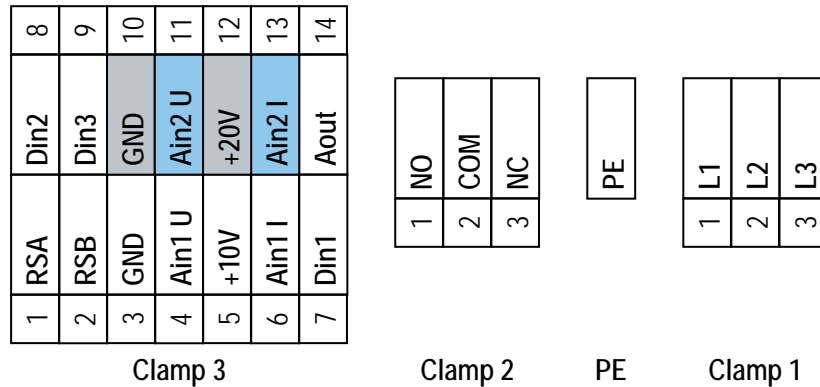

Fig. 25: Terminal strip, ports for specification of actual value with sensor control
To connect the sensor, the terminal strip (KL) is provided with the two analogue ports Ain2 U and Ain2 I (see Fig. 25). Alternatively, terminals Ain1 U and Ain1 I can also be selected. Terminal 12 serves as a power supply with a voltage of +20 VDC.
are directly connected to the voltage source and deliver a 4 to 20mA signal. The GND connection is established via an internal 100Ω resistor (load) in the fan. On the terminal strip shown in Fig. 25 such a sensor would be connected to Ain2 I and +20V.
on the other hand, are available with both output signals: current signal (4 to 20mA) and voltage signal (0 to 10V). Depending on the type, use the inputs Ain2 I (terminal 13) or Ain2 U (terminal 11). On the terminal strip shown in Fig. 25 such a sensor would be connected to Ain2 I and Ain2 U, +20V and GND.